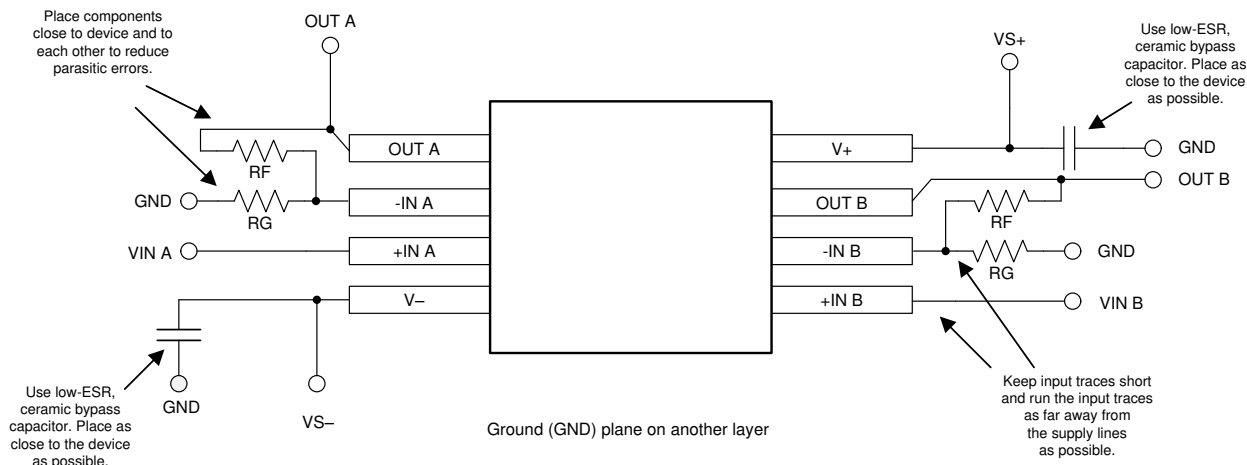

Figure 37. Layout Example
- Place the external components as close to the device as possible. As shown in Figure 37, keeping RF and RG close to the inverting input minimizes parasitic capacitance on the inverting input.